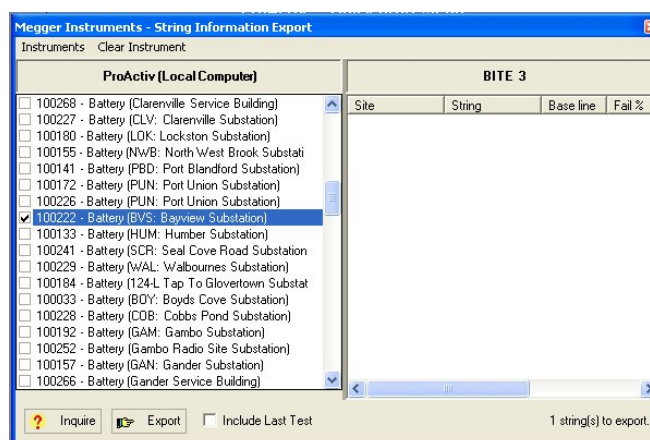

Figure 3 - Export Data
- 1-4. Choose the proper string to upload to the BITE3, making sure the “**Include Last Test**” checkbox is clear, and click “**Export**”, refer to Figure 3.